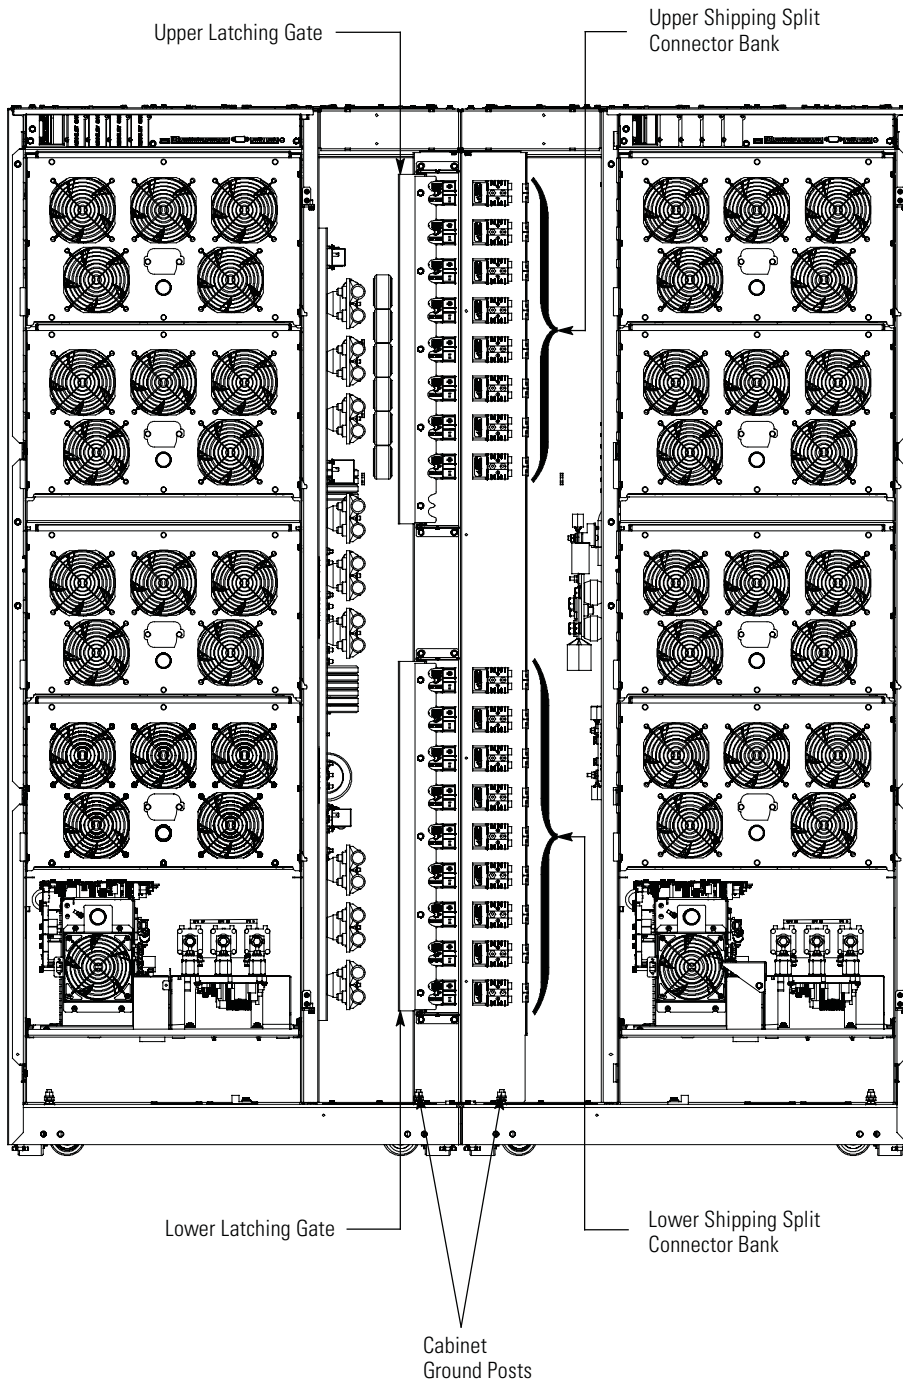

Figure 4-7. Shipping Split Connector Banks
1. Locate the upper shipping split connector bank at the back of the joined cabinet sections (see Figure 4-7). Starting at the top of connector bank, remove the wire tie holding the right cabinet section connector to frame and connect to the mating connector on the left cabinet section. Continue down the bank until all connections have been completed.
2. Locate the lower shipping split connector bank at the back of the joined cabinet sections (see Figure 4-7). Starting at the top of connector bank, remove the wire tie holding the right cabinet section connector to frame and connect to the mating connector on the left cabinet section. Continue down the bank until all connections have been completed.
3. When all connections are completed, remove tags from the upper and lower latching gates and close the latching gates to secure the connections (see Figure 4-7).
5. Install inter-cabinet ground connections between the left and right cabinet sections using cabinet ground posts (see Figure 4-7).